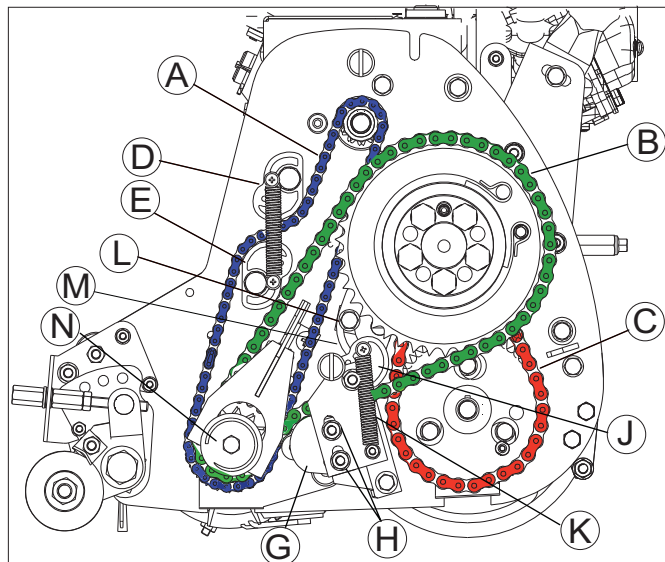

Fig 8.10
- When applying grinding paste the reel should only be rotated by appropriately sized piece of wood or the socket on screw [N] (Fig. 8.10).
6. Rotate the cutting cylinder clockwise by using a socket spanner and brace on the screw [N] (Fig. 8.10) at the LH end of the cylinder spindle.